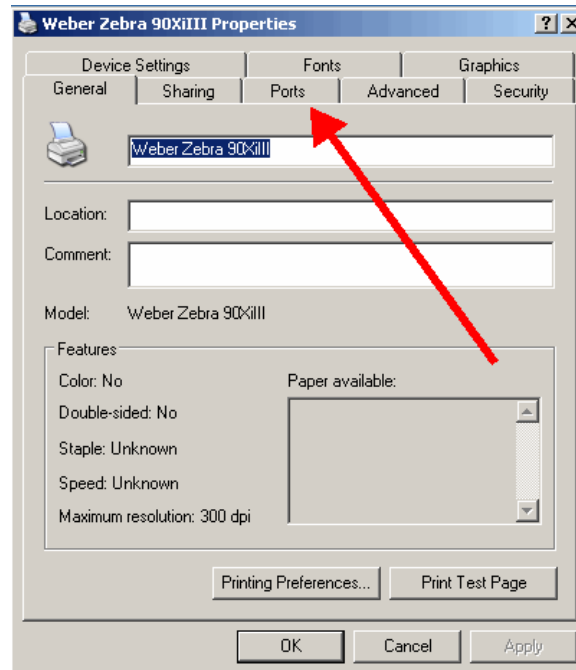

Figure 25
30. Click on the Ports tab.(Figure 25)